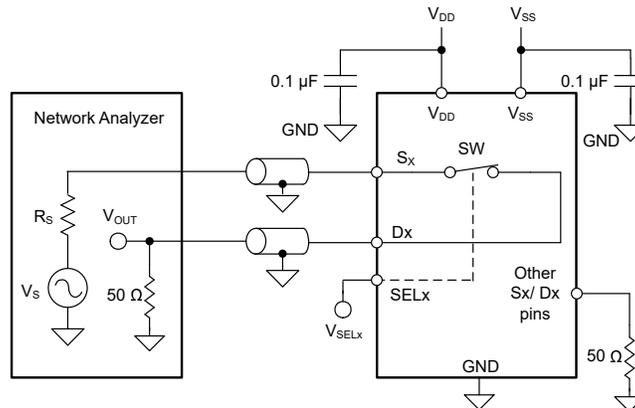

Figure 8-8. Bandwidth Measurement Setup
Bandwidth (BW) is defined as the range of frequencies that are attenuated by $< 3\ \text{dB}$ when the input is applied to the source pin (S_x) of an on-channel, and the output is measured at the drain pin (D_x). Figure 8-8 and Equation 3 shows the setup used to measure bandwidth of the switch.